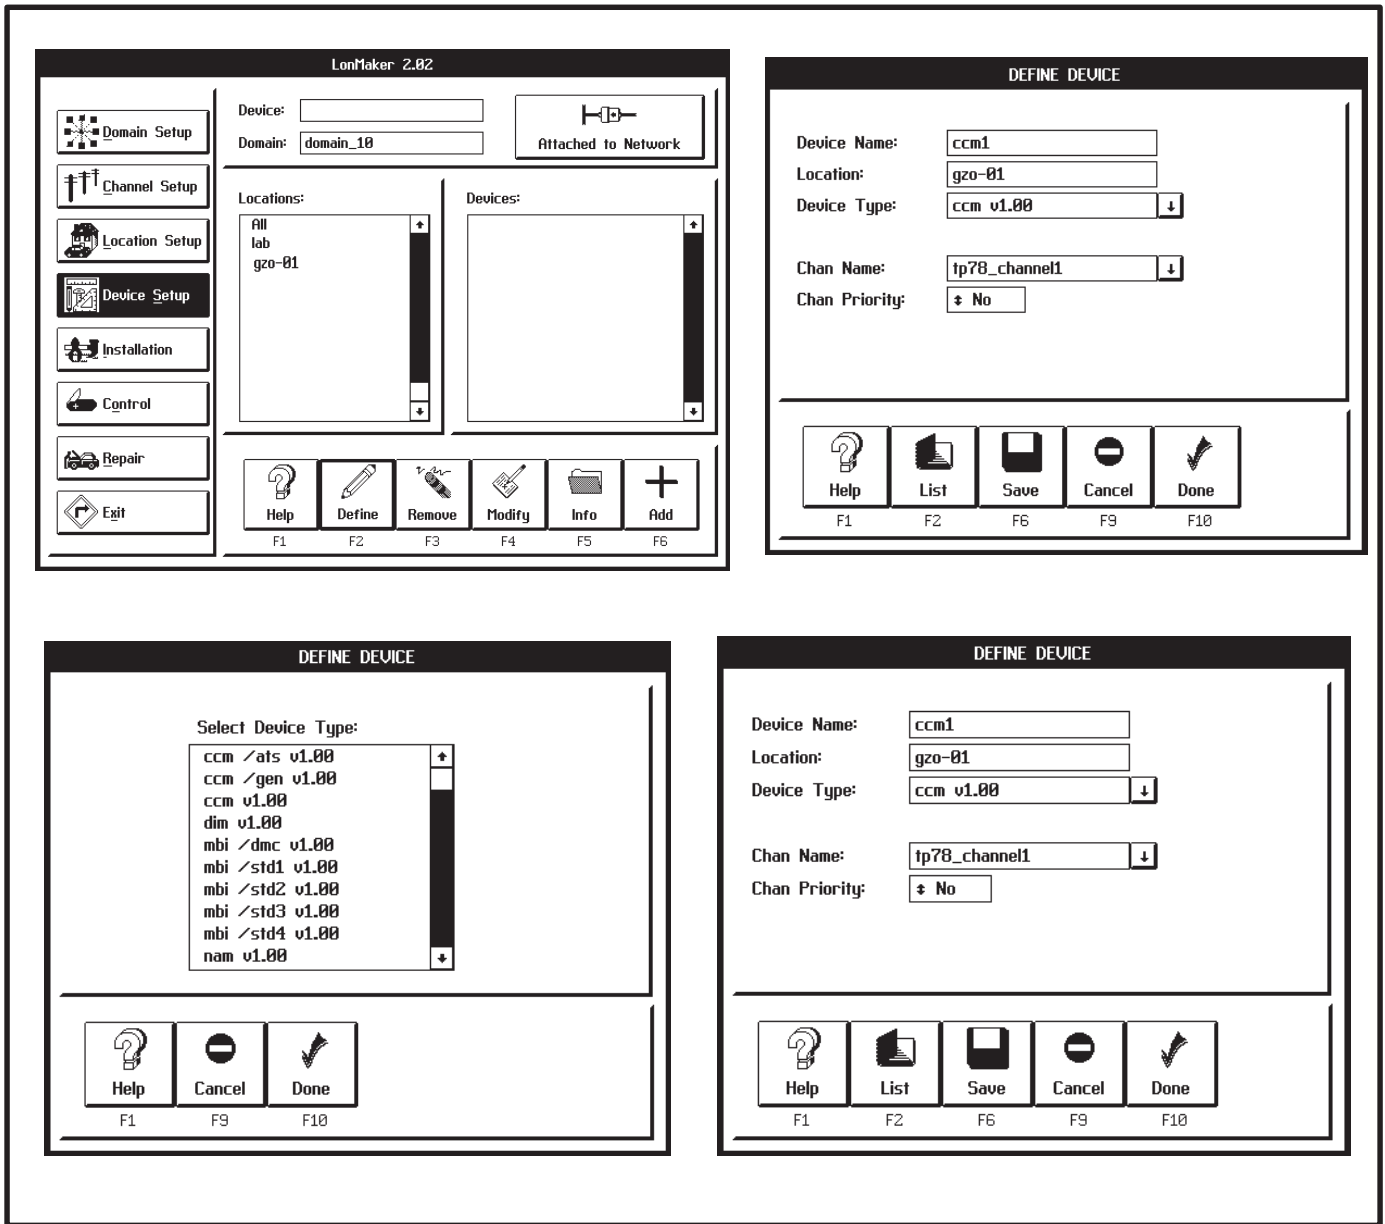

FIGURE 3-8. DEFINE DEVICE SCREENS
3. Click on the Define (F2) action button. The DEFINE DEVICE screen appears (Figure 3-8).